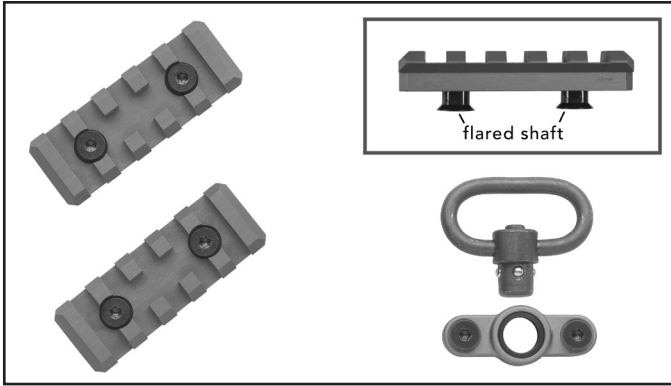
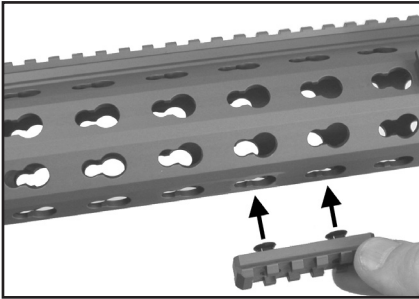

Fig. 75 – Rails segments and quick detachable sling hardware components
Fig. 76 – Position rail segment
1. Position the rail segment or component (Fig. 75) in the desired location on the slotted keyhole interface of the MRS and push in and slide to the rear, allowing the flared shaft of the captive hex (Allen) screws to hold the segment or component in position (Fig. 76, 77, 78).